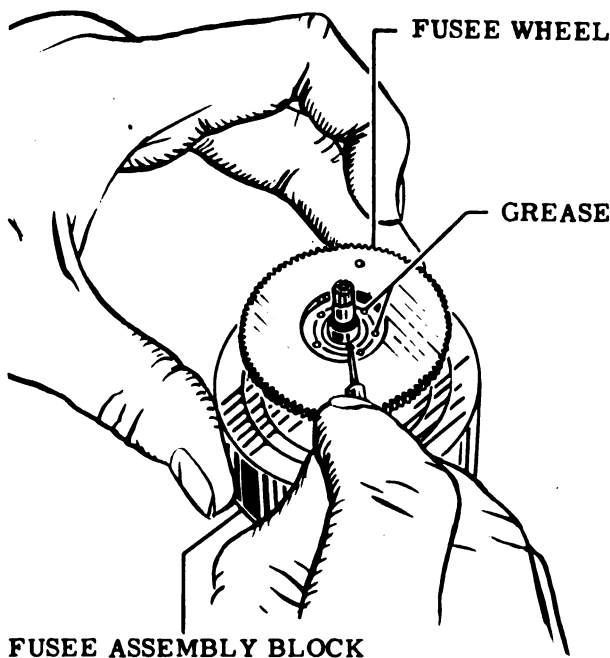

Figure 72
26. Grease both elevations in the recess of the fusee wheel. See Fig. 72 for location of grease spots.